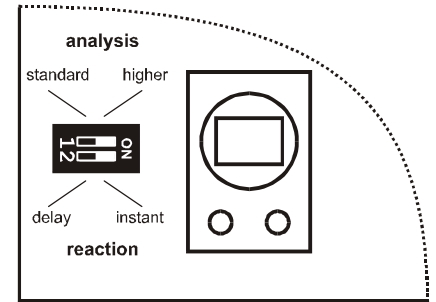

Fig.10
- D. Select Instant or Delayed reaction of the system to the detector's triggering by using DIP SW 2 (see fig. 10)